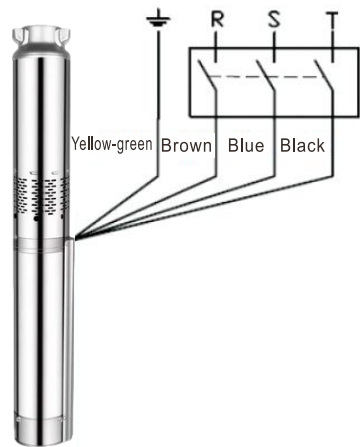

fig. 4-3
1. Built-in controller without function (Four cores cable line)Connect the pump cable wires (Brown, Blue, Black) with AC three phase, yellow-green connecting ground.See fig. 4-3